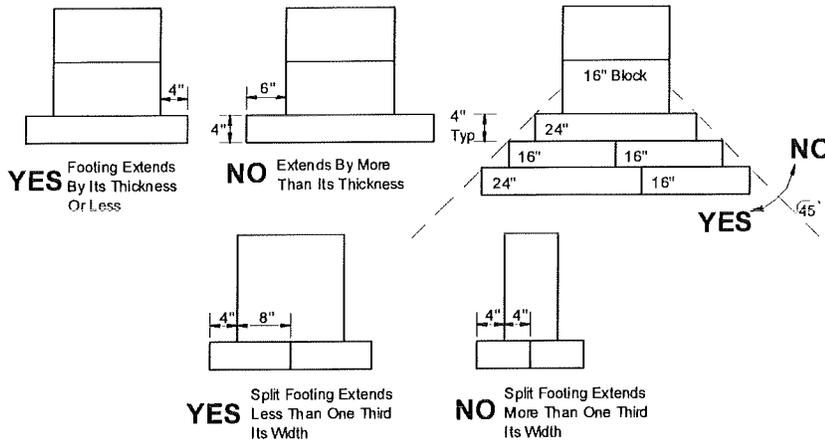

Figure 11. Maximum footing extensions
- Design footings with a footing extension (projection beyond the base of the pier) no greater than the footing thickness. (Figure 11) Increase footing thickness if necessary.